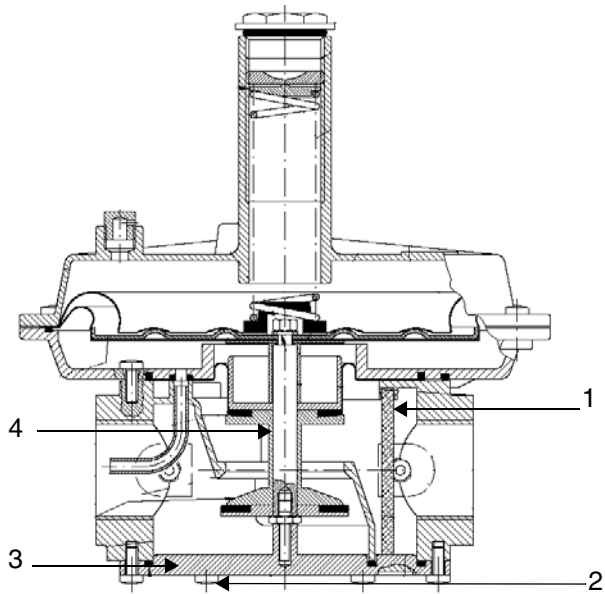
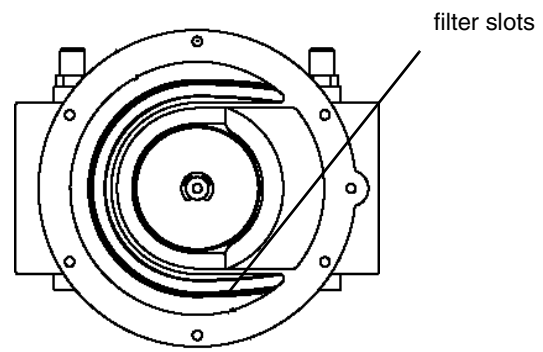

Fig. 36 - threaded body
Fig. 37
To check the filtering part (1) on threaded bodies (see Fig. 36):
- remove the filtering part (1), clean it with water and soap, blow it with compressed air or replace it if necessary;
- reassemble the filtering part in its initial position checking that it is placed in its own slots (see Fig. 37);
- reassemble the bottom cover (3), being sure that the main bolt is centered in the bottom cover slot.